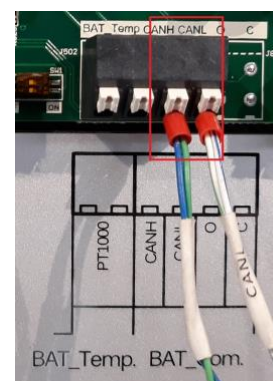

Figure 7 BAT\_Com. port in the inverter
**Step 4** Plug CANH wires into the CANH port and plug CANL wires into the CANL port of the configuration circuit board of SH5K+/SH5K-20 (Figure 7).